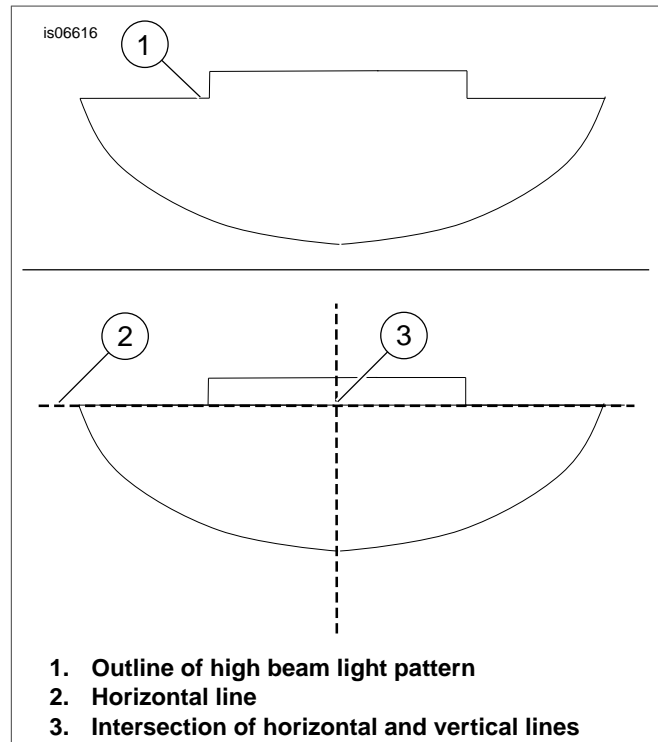

Figure 3. Alignment of Headlamp High Beam
- See Figure 3. With vehicle laden and upright, point the front wheel straight forward at wall.
- Turn on the **high beam** and align the **high beam** hot spot with the vertical line (3).